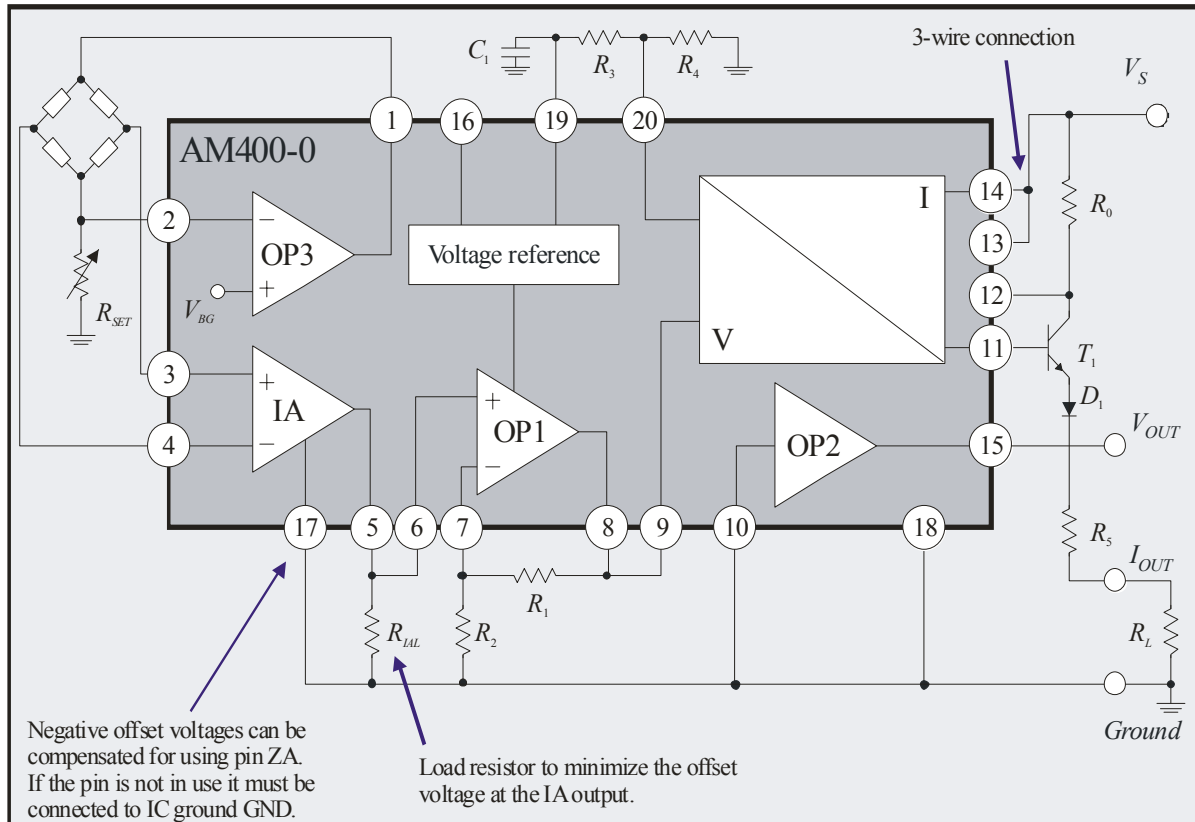
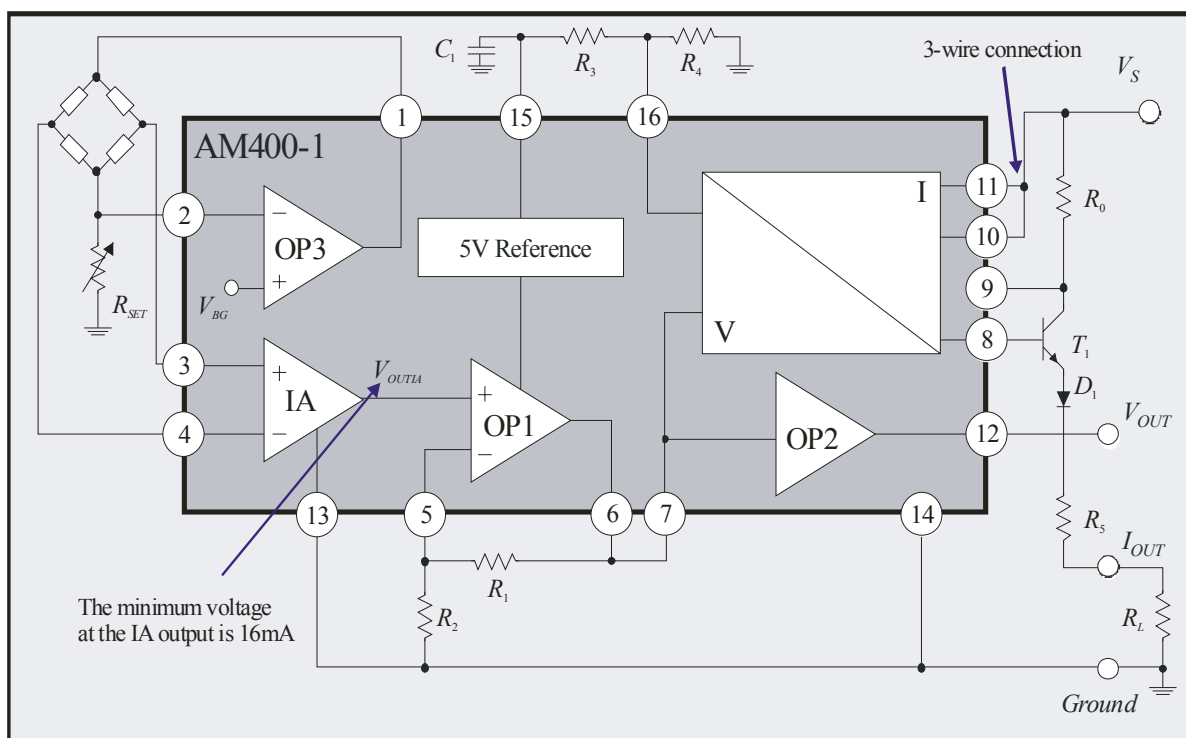
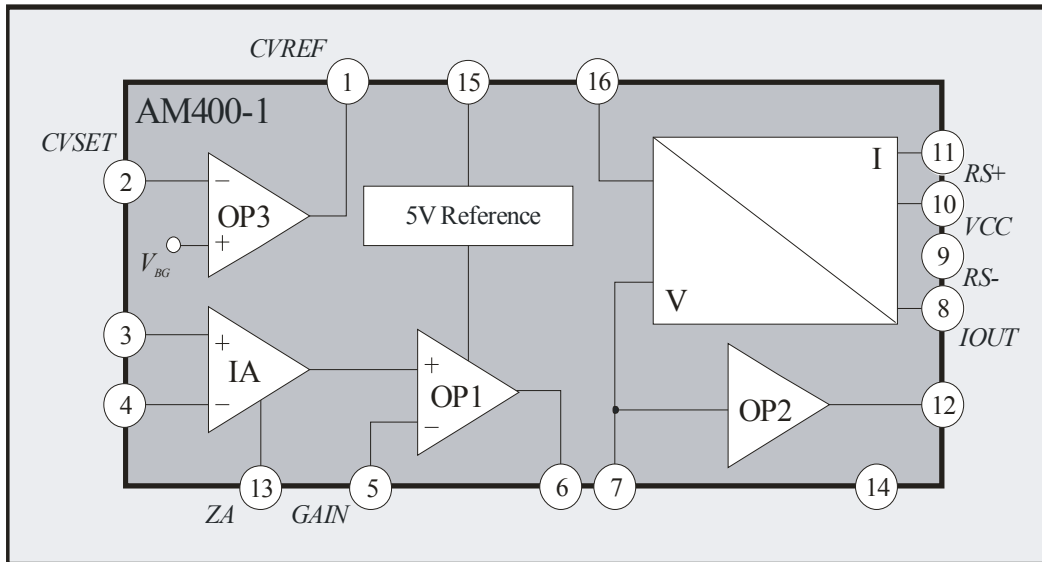

Figure 5: Typical 3-wire application for differential input
Figure 8: Typical application for the 16-pole version of AM400 (3-wire)
Figure 11: Block diagram of AM400 in the 16-pole version
4. The voltage-to-current converter (V/I converter) provides a voltage-controlled current signal at IC output I_{OUT} which activates an external transistor T_1 ; this reduces the power dissipation of the IC and supplies the output current I_{OUT} . The external transistor is protected against reverse polarity by an additional diode D_1 . Via pin SET an offset current I_{SET} can be set at output I_{OUT} (with the help of the internal voltage reference and an external voltage divider as shown in Figure 5, for example). External resistor R_0 permits the output current to be finely adjusted with parallel operation of current and the voltage output. For the output current I_{OUT} boosted by T_1 the following ratio applies:
In 3-wire operation (cf. Figure 5, for example) the ground of the IC (pin *GND*) is connected up to the external mass of the system *Ground*. The system's supply voltage V_S is connected to pin *VCC* and pin *VCC* to pin *RS+*.
When using the IA together with amplifier stage OP1 and the V/I converter for further signal conditioning the offset of the output current should first be compensated for. To this end the two IA inputs must be short-circuited ($V_{IN} = 0$) and connected up to a permitted potential (cf. CMIR in the electrical specifications on page 5). With the short circuit at the input the values of the output current according to Equation 4 and an external voltage divider (e.g. Figure 5) are as follows:
In 3-wire operation (cf. Figure 5, for example) the IC ground (pin *GND*) is connected up to the external ground of the system (*Ground*). The system's supply voltage V_S is connected to pin *VCC* and pin *VCC* to pin *RS+*.
Figure 5 shows a 3-wire application in which the differential output signal of a current-powered measuring bridge is amplified and converted. Operational amplifier OP3 supplies the measuring bridge with current. Bridge supply current I_S can be set using resistor R_{SET} :
Figure 8 gives a 3-wire application which uses the 16-pole version of AM400 (Figure 11). The dimensions of this specific application are no different from those of the 3-wire setup illustrated in Figure 5; no detailed description shall thus be given here. One difference, however, lies in the fact that the minimum voltage at the IA output cannot be reduced by connecting up external load resistor R_{LIA} . Particularly with small differential input signs and the large G_{OP} gain these entail a “correct” value of 0V cannot be obtained at IC output V_{OUT} (cf. the comments on V_{OUTIA} in the electrical specifications). For this reason the 20-pole version of AM400 is preferable for small signals.